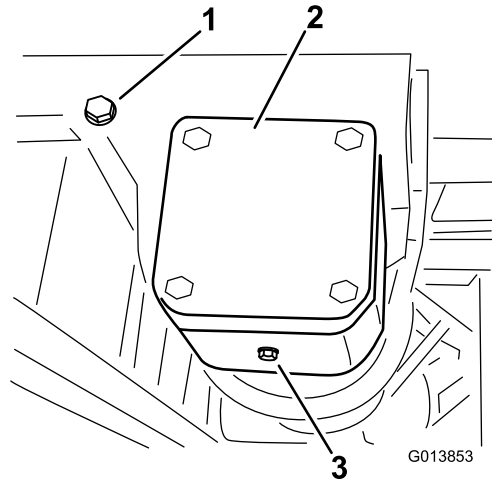

Figure 68
2. Place a pan under the drain plug on the pump drive gear box (Figure 68).
3. Remove the fill-level plug and drain plug (Figure 68), allowing the oil to drain into the pan.